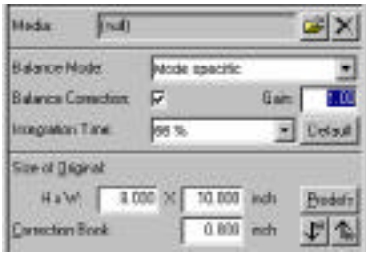

Figure 14: The left menu within the Cruse software allows the user to adjust their scan settings.
*Balance Correction/Gain:* Make exposure corrections if necessary. (See figure 14.) Click the checkbox to activate. “2” doubles the exposure, “0.5” halves the exposure time, etc. (To change the gain to accommodate for a manual change in f-stop, read the “Scanning in 3D” section on page 12.)